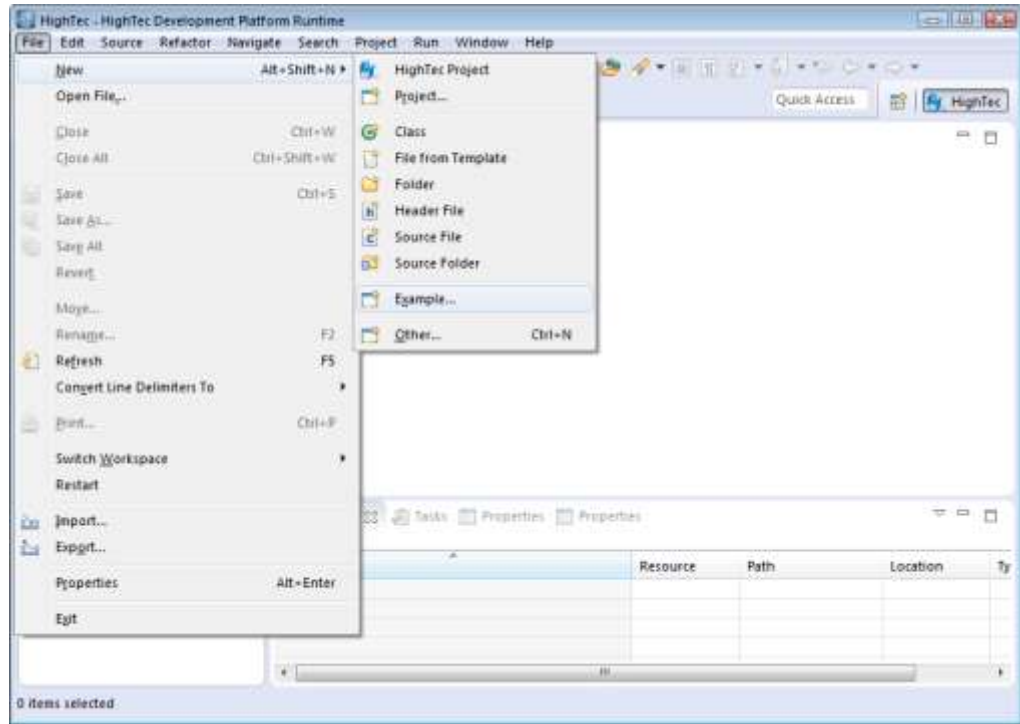
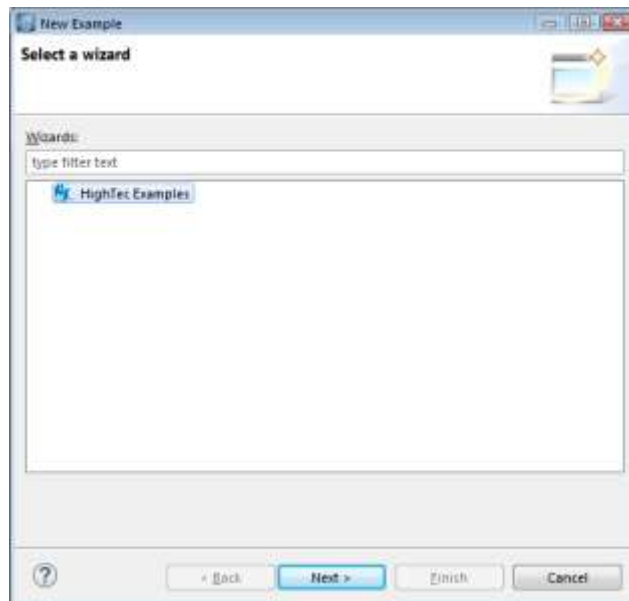

Figure 11 Menu File / New / Example
Figure 12 New Example Wizard
Before creating a TriCore project, it is necessary to have the **HighTec C/C++** perspective on the workbench (Figure 11). By default, this should be the case when you start Eclipse, but if it is not, do the following.
1. From the **File** menu select **New - Example** (Figure 11). The New Example wizard appears (Figure 12).